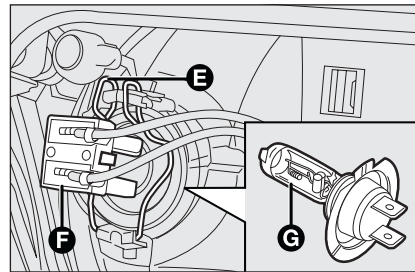

fig. 22
- disconnect the electric connector **F** - fig. 22;